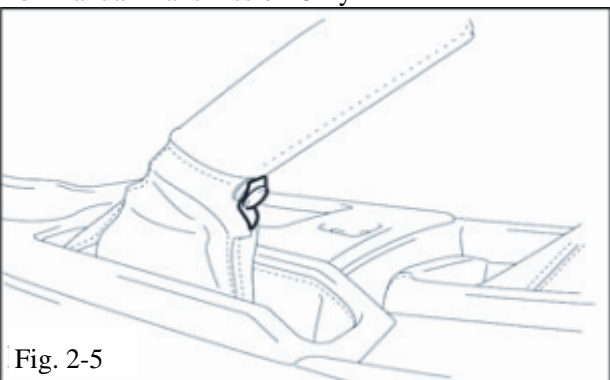

Fig. 2-5
- (1) Release snap on emergency brake leather cover. (Fig. 2-5)